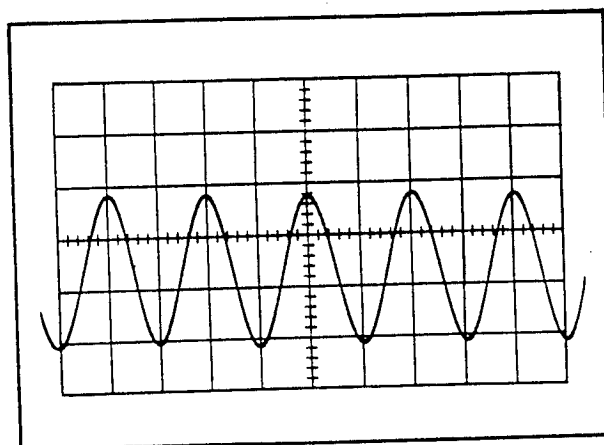

Fig. 5-16. Typical crt display when checking high speed timing linearity.
- Check—Timing over entire sweep length, excluding first and last 3 cycles of the total sweep, within  $\pm 4\%$  ( $\pm 0.32$  division for middle eight divisions); see Fig. 5-16.